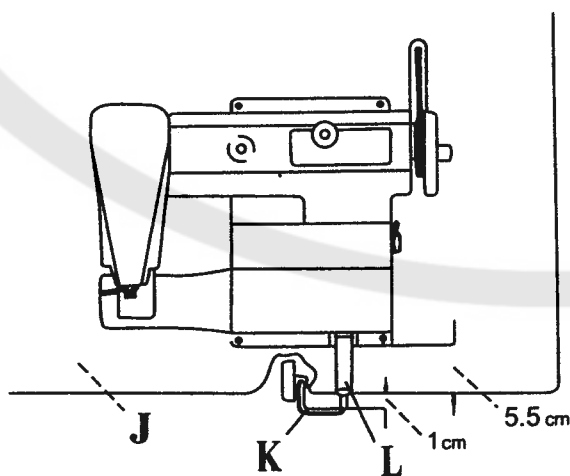
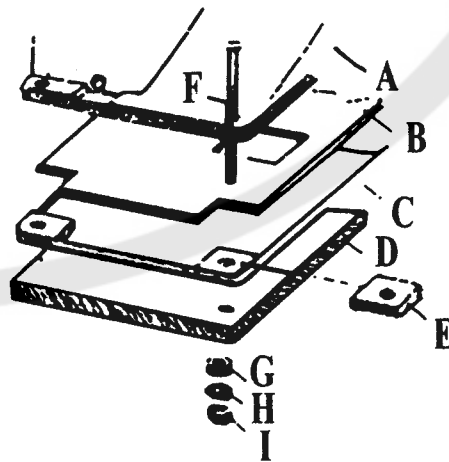

Fig.2
Fig.1
## 二、Fitting machine head(Fig.1、 Fig.2)
①Put pads “A” , “B” , “C” , “D” , “E” onto the table in order as shown in fig1. Insert four hexagon head bolts with small head “F” into the holes. After putting on washers “G” and “H”, put on hexag nuts “I” , tighten the four nuts diagonally, and fix the machine head on the table .
②Connect front end of long shaft with knee lifter “K” and sleeve “L” . When the crossbar of knee lifter is 1cm distant from the front end of table “J” , fix the sleeve.
③Put on “V” belt “N”, move the motor leftwards or rightwards so as to fix the motor under the sewing table after making the motor pulley in alignment with handwheel. Regulate the motor’ s height in order to make the belt in an appropriate state of tightness.
④First fix the motor switch at the bottom right place of the front end of sewing table for the convenience of operation, and then turn on the power.